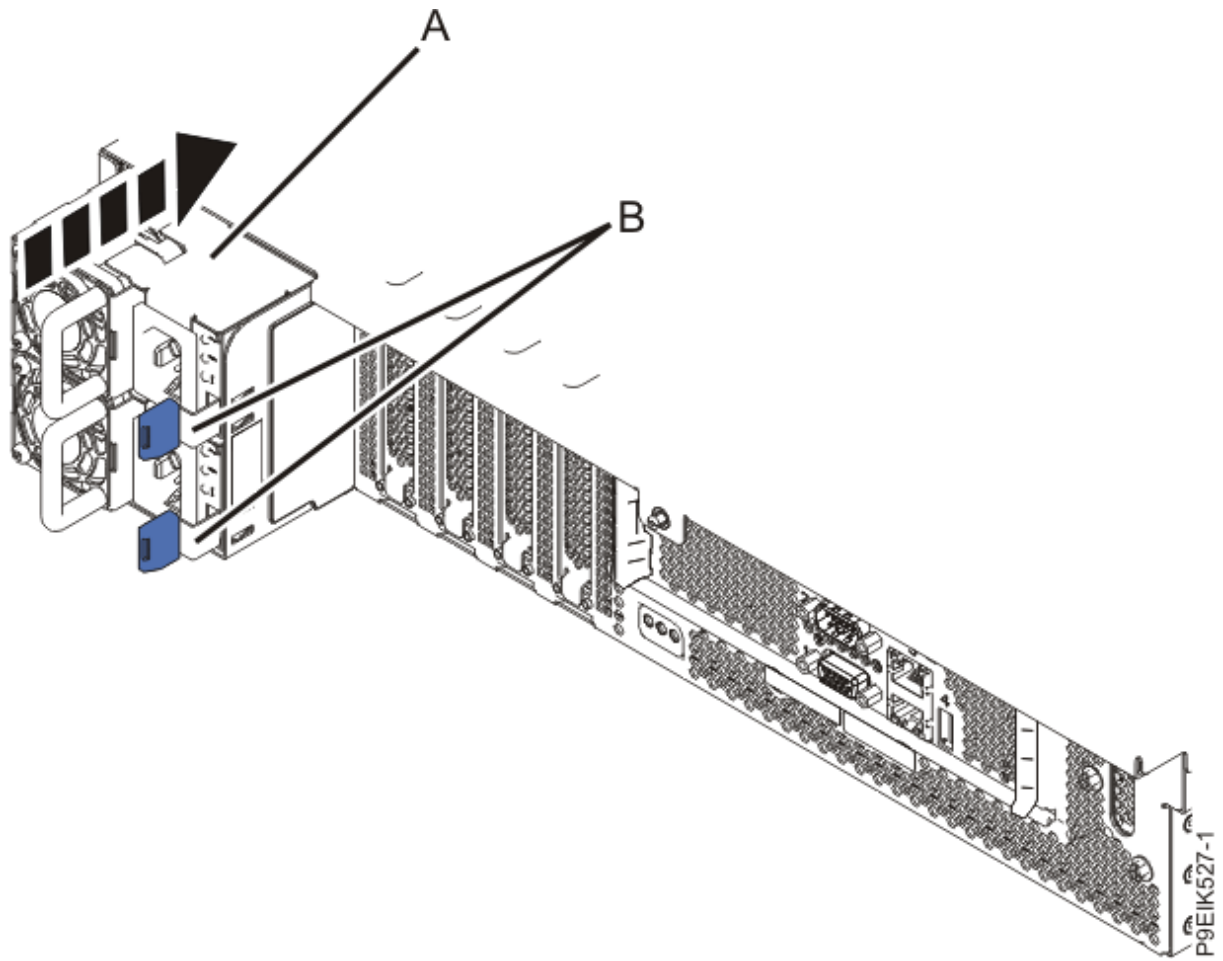

Figure 189. Replacing the power supplies in the system
6. Replace the power supplies as shown in Figure 189 on page 207.